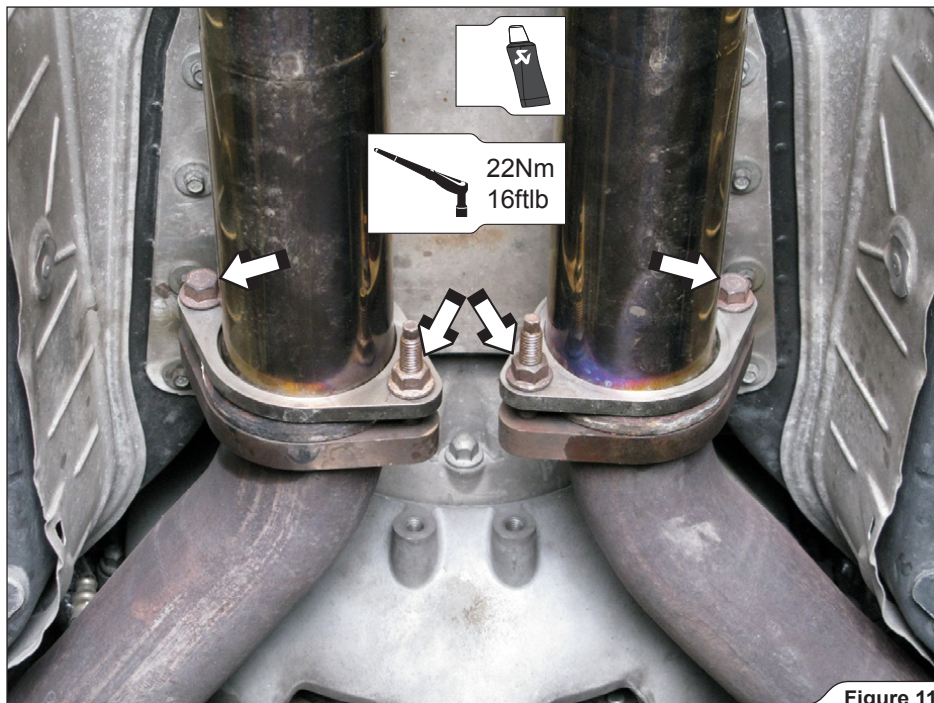

Figure 11
2. **For Evolution only:** tighten the Akrapovič front tubes flanges to a specified torque (**Figure 11**).